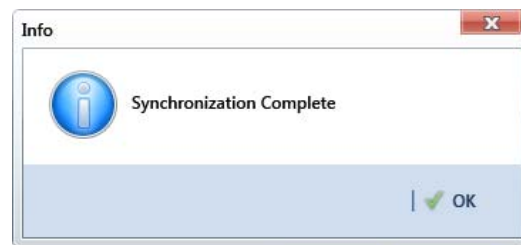

Figure 16-17. Synchronization Complete
- 2 Click **OK** when the message *Synchronization Complete* displays to complete the process (Figure 16-17).